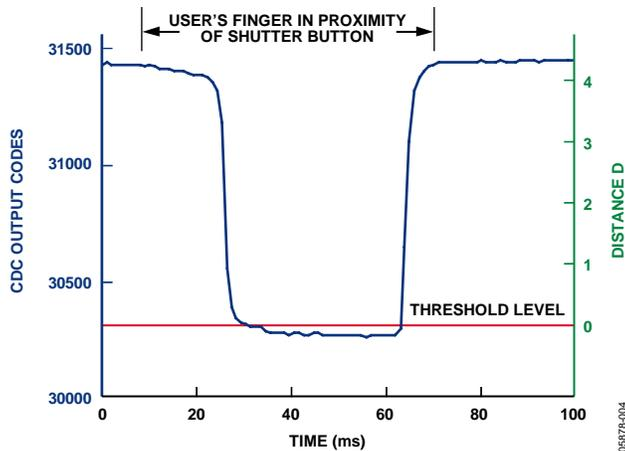

Figure 4. Example of CDC Output Code vs. Distance D
The AD7142 can be configured for different threshold levels—that is, sensitivities. This feature can be used to set a very low sensitivity threshold level to meet the requirements previously described. Figure 4 shows an example of how the CDC output code changes when a user's finger is at various distances (D) from the shutter button. By setting a low interrupt threshold level, the user's finger has to make partial contact with the shutter button to cross the interrupt threshold level and assert the AD7142 interrupt output.